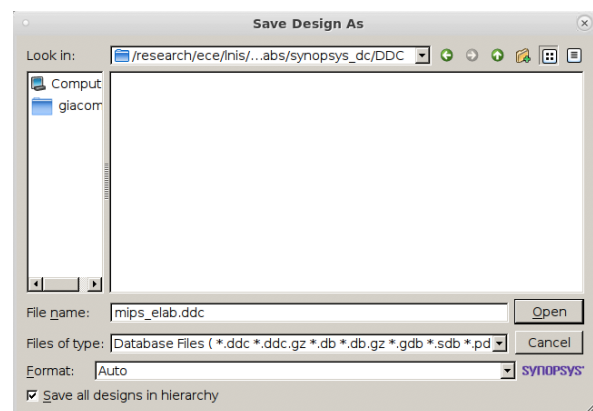

Figure 6: Saving the elaborated design
2. Save the design in the *DDC* folder, as shown in Fig 6 with the name: *mips_elab*.